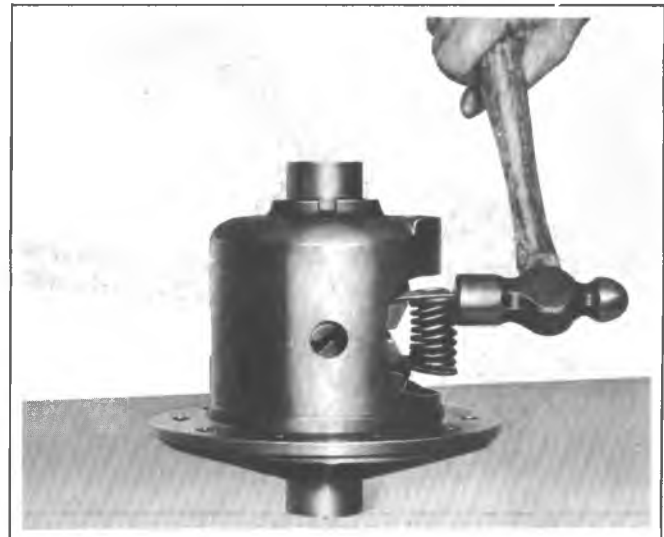

Fig. 13D--Installing Spring Pack
18. Drive spring pack into side gears sufficiently to retain front springs, then remove 1/4 inch bolts from springs. Drive spring pack into position. See figure 13D.